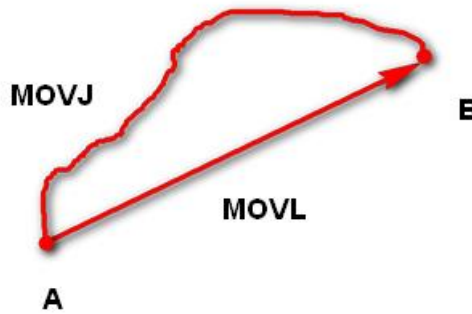

Figure 2.6 MOVL & MOVJ mode
- **MOVJ**: Joint movement. From point A to point B, each joint runs from initial angle to its target angle, regardless of the trajectory, as shown in Figure 2.6.
- **MOVL**: Rectilinear movement. The joints perform a straight-line trajectory from point A to point B, as shown in Figure 2.6.